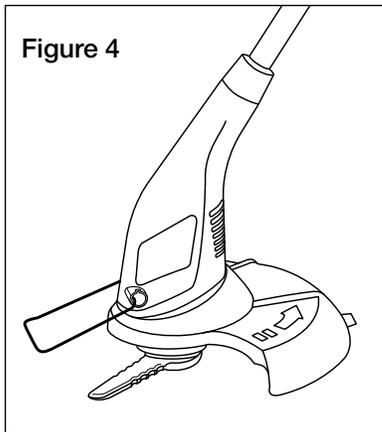

Figure 4
- 5) Now the diameter of the protection area is 9 inches (Figure 4).